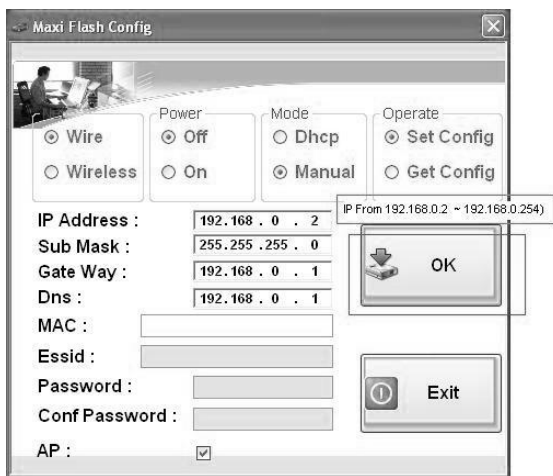

Figure 3.5
- 6) Select “DHCP” in “Mode” column, if you are connecting to the local area network, the MaxiFlash Pro will obtain the IP address automatically. Select “Manual” in “Mode” column, if you are connecting to the PC directly for the first time, and then set the IP address on your own. (Take the value shown in Figure 3.5 for example).